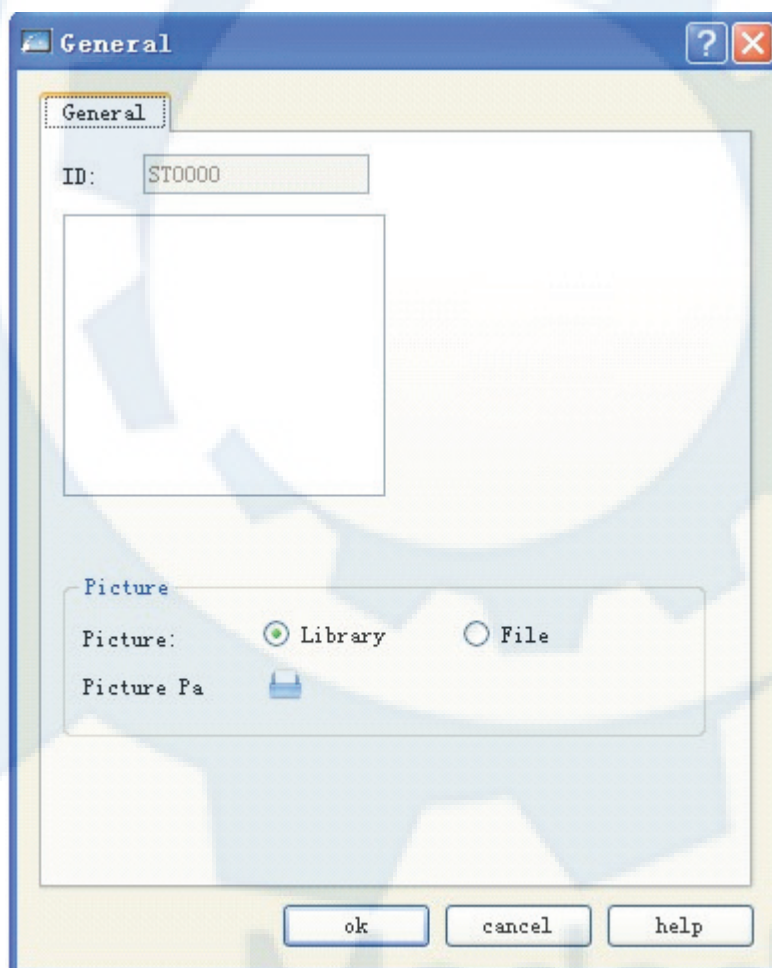

Figure 4-114: Static picture dialog
1. Click Static Picture icon  in the tool bar, and a dialog as shown in Figure 4-114 will appear.